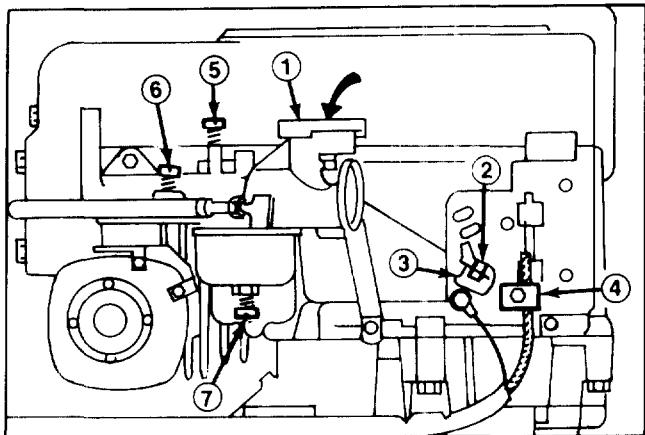

Figure 19
1. Remove the screws holding air cleaner in place and lift complete air cleaner assembly off carburetor (Fig. 19).
2. Move throttle control lever to CHOKE position and check the position of the choke butterfly; it should be fully closed (Fig. 19).
3. Move throttle control lever to FAST position. The butterfly should be in the fully open position (Fig. 19).
2. Loosen the throttle cable clamp screw (Fig. 19) and move the control cable casing and wire until the throttle lever touches link.
1. Needle Valve (Fig. 19) — Close valve by gently rotating it clockwise.
2. Rotate—open—the needle valve 2 turns counterclockwise (Fig. 19).
4. Rotate needle valve (Fig. 19) clockwise, 1/8 turn at a time, until engine starts to lose speed. Let engine react to each 1/8 turn setting.
5. Rotate needle valve (Fig. 19) counterclockwise — out — 1/8 turn at a time, until engine first runs rough. Let engine react to each 1/8 turn setting.
6. Rotate needle valve (Fig. 19) clockwise—in—very slowly until engine starts to run smoothly. This setting, under no load, may be slightly rich; however, the slightly rich setting will assure proper operation when engine is under load.